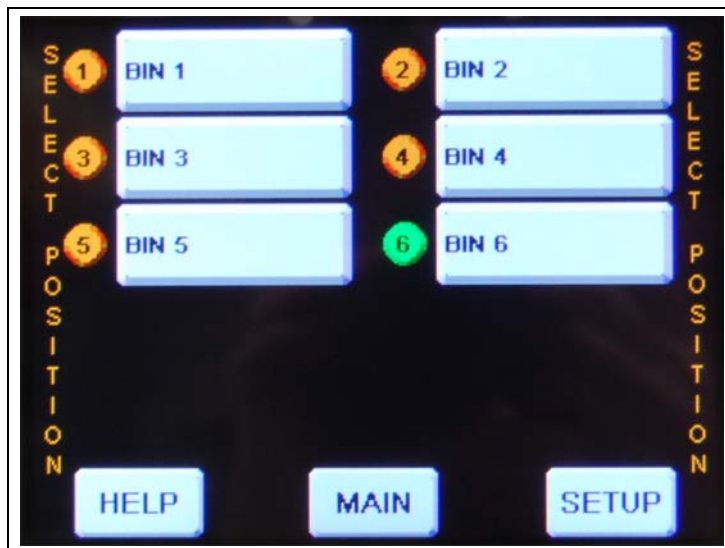

Figure 4G Move Position Screen
This screen allows the user to change the distributor's current spout position. The green highlighted spout number indicates the current selection. A spout number with a red circle with a line through it indicates a position that is currently locked-out. (See "Position Lock-Out Screen" on Page 31.) (See Figure 4G.)
1. From the "Main" screen or the "Setup Menu", select "MOVE" to view the "Move Position" screen. (See Figure 4G.)